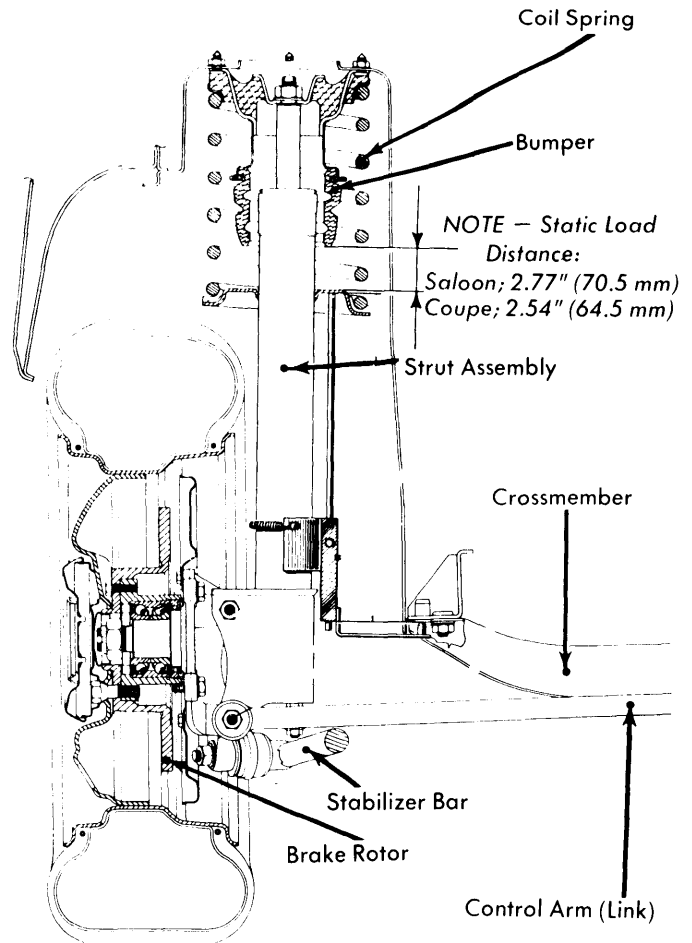

Fig. 1 Cross Section View of Rear Suspension
**Installation** — To install, reverse removal procedure and check static load. See Fig. 1.